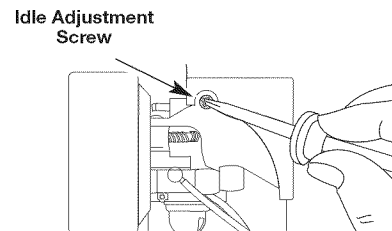

Fig. 27
The idle speed of the engine is adjustable. An idle adjustment screw is between the air filter cover and the engine starter housing (Fig. 27).
2. Release the throttle trigger and let the engine idle. If the engine stops, insert a small phillips in between the Air Filter Cover and the Engine Cover (Fig. 27). Turn the idle speed screw in, clockwise, 1/8 of a turn at a time (as needed) until the engine idles smoothly.